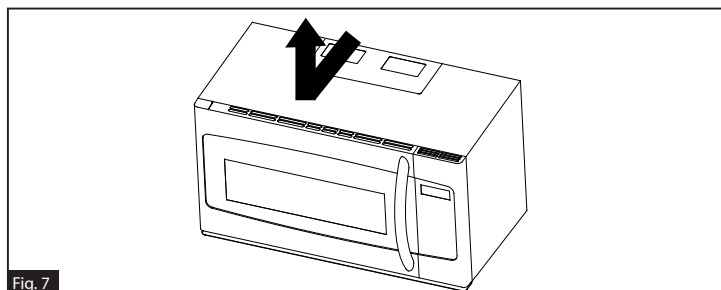

Fig. 7
A. Recirculating (Non-Vented Ductless) (Fig. 7)